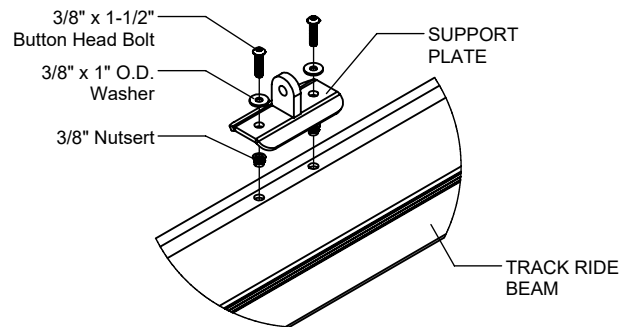

Figure 1.1
Drill (2) 17/32" holes spaced 4" apart centered on Track Ride Beam. Install Nutserts into Track Ride Beam and attach Support Plate as shown in Figure 1.1. (See Note A)